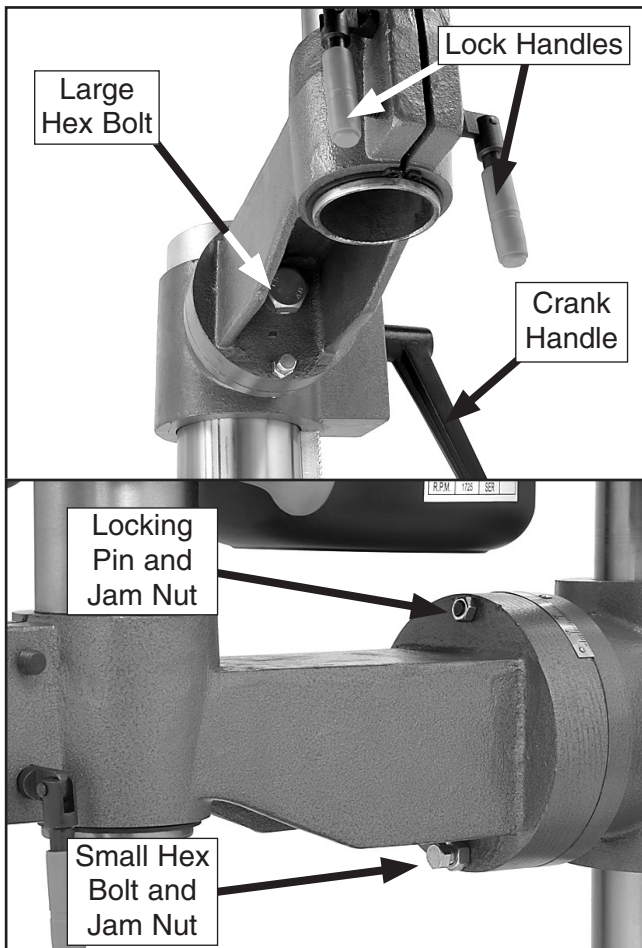

Figure 24. Headstock adjustment components.
The headstock can be rotated 360° around the column, can swivel 360° in place, and can tilt 45° to the left or the right. **Figure 24** shows the headstock adjustment components.
5. The small hex bolt and jam nut shown in **Figure 24** are used to control the amount of resistance when tilting. To increase resistance, turn the hex bolt clockwise. To decrease resistance, turn the hex bolt counterclockwise. When resistance adjustments are complete, tighten the jam nut against the bracket.